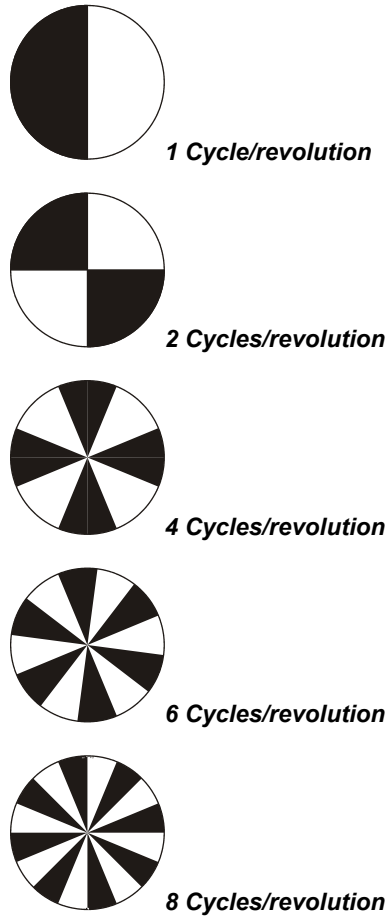

Figure 4-17
- √ Using double-sided tape, rubber cement, or some other non-permanent method, attach the 1 cycle/revolution retro-reflective encoder wheel from Figure 4-17 to the fan. Do not place tape on the surface as it may reflect, affecting your readings.